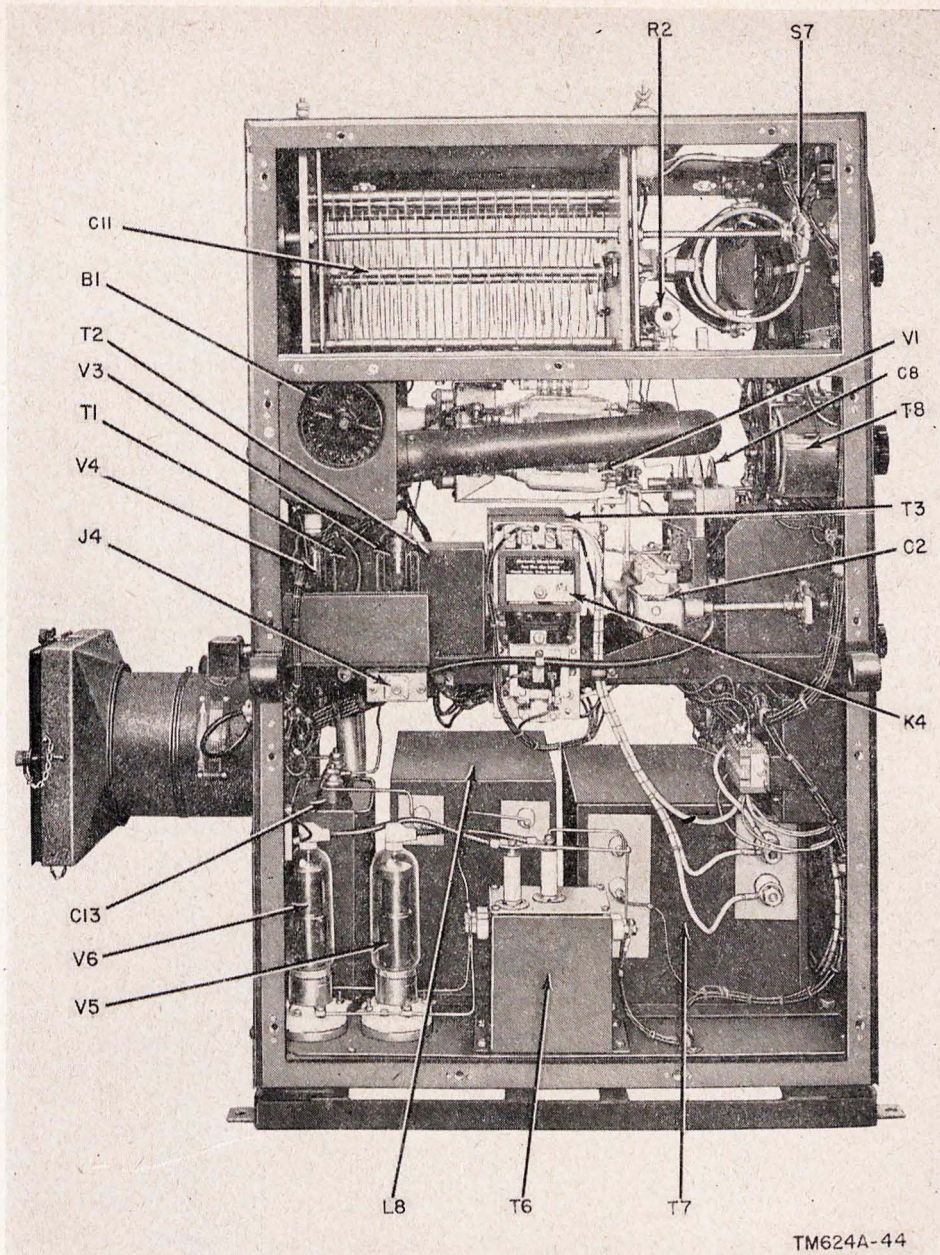
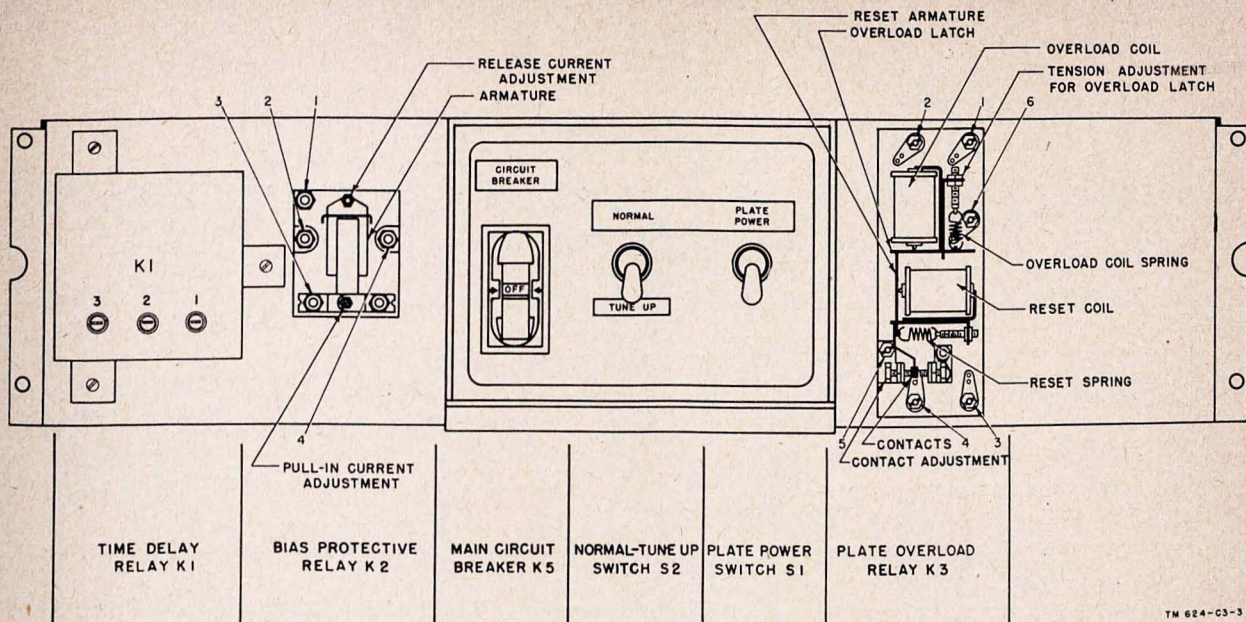

Figure 82. Amplifier AM-141(\*)/MRC, left side panel removed.
Figure 86. Amplifier AM-141(\*)/MRC, relay K2 and K3 adjustment points.
*g.* Turn off the PLATE POWER switch of the radio transmitter and the CIRCUIT BREAKER on the amplifier. Slightly loosen the two lock nuts on each of the grid plates of each neutralizing capacitor C8 and C9 (fig. 82). Adjust both capacitors equally; either reduce or increase the capacitance of each capacitor by the same amount.
*b. Relays.* Three relays and a time-delay switch are provided for control and protection of the amplifier tubes. The protective relays must be adjusted properly to give adequate protection to the circuit elements that they guard. Refer to figures 82 and 85 for the relay locations. Adjustment points of relays K2 and K3 are shown in figure 86. These relays are tested and adjusted as follows:
the tension on the armature tail spring should be increased. If the relay drops out above 135 ma, the tail spring tension should be reduced. If the closing current is in excess of 210 ma, the contact screw (fig. 86) should be adjusted to reduce the space between the armature and the pole piece. If closing current is less than 190 ma, increase the space between the armature and the pole piece. If undue difficulty is encountered in the adjustments outlined above, remove and replace the relay.
(4) *Power contactor relay K4* (figs. 82 and 87). Relay K4 is located on the left side of the bias (middle) shelf and is accessible only after the left side panel is removed. This relay is not critical of adjustment but is subject to troubles from dirt and broken or otherwise defective components; for these reasons, it should be inspected, cleaned, and tightened regularly. The plunger should be moved by hand to make sure that it is not binding because of dirt or deposits of fungicidal lacquer. Inspect the contacts to see that they are aligned properly. Access to the contacts may be gained by removing the large nut that holds the name plate to the side of the contactor. Inspect the contact supports for breaks, evidences of flashovers, and dust.